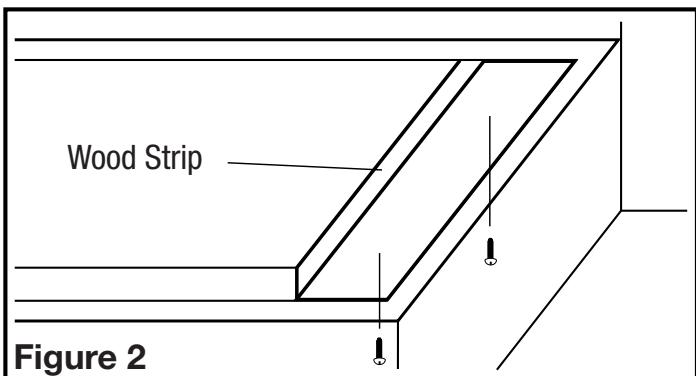

Figure 2
1. If the hood will be installed under cabinets that have a recessed bottom, it will be necessary to install wood mounting strips (not included) so the hood will mount properly (Figure 2).